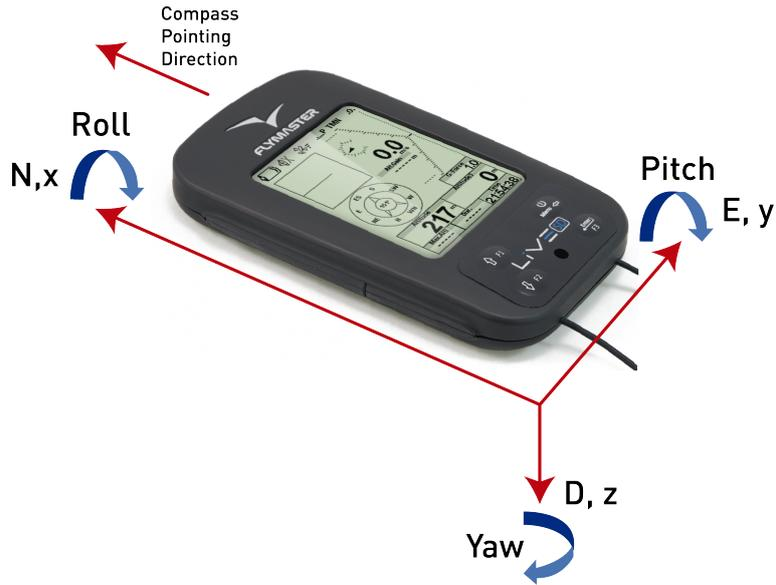
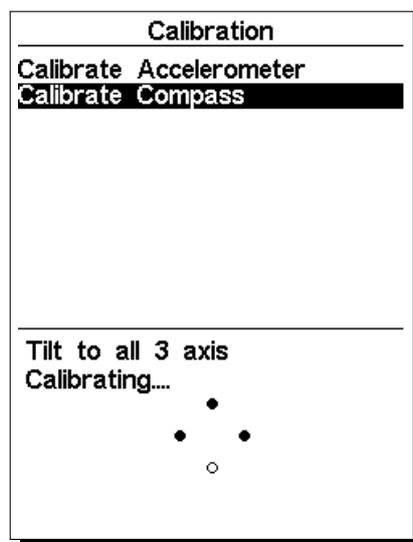

Figure 8.2: Compass Calibration Reference Frame
Figure 8.3: Compass Calibration Indication Points
The magnetometer has 3 axes (Figure 8.2) which are associated with the instrument reference frame. Turning the instrument around each of the 3 axes will change the Yaw, Pitch and Roll angles. In order to make a proper calibration the instrument should be turned/rotated slowly in each of the 3 axis. It is not important to make a complete rotation, or the order in which the turns are made. What is important is that instrument is rotated to vary the Yaw, Pitch and Roll from an angle near -90° to $+90^{\circ}$. An indication of the calibration procedure state is given using 4 circles that are shown at the bottom of the calibration page (see Figure 8.3). The top and bottom circles are associated with the Pitch angle, while the left and right circles are associated with the Roll angle. When the calibration is initiated all the circles are empty (no color). If the instrument is rotated so that the pitch angle gets close to -90° then the top circle is filled black. Similarly, if the pitch angle gets close to $+90^{\circ}$ then the bottom circle is filled black. The same thing happens with the left and right circles when the instrument is rotated for the Roll angle. No indication is given for the Yaw angle. The calibration procedure is automatically terminated when all the circles become black. In the figure Figure 8.3 all the circles are black except the bottom one. The complete calibration procedure can be summarized in the following points:
1. Go to Menu->Settings->Calibration and choose the "Calibrate Compass" option (see Figure 8.3);